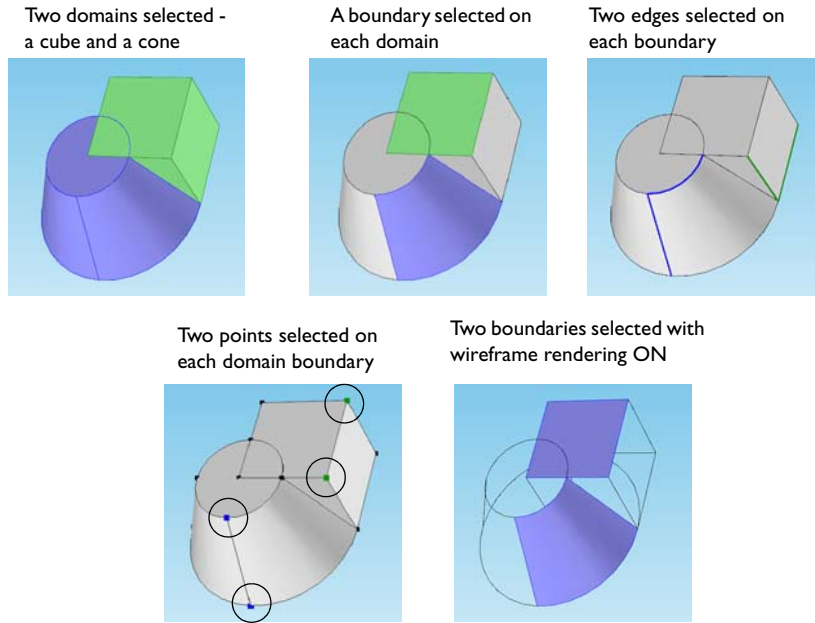
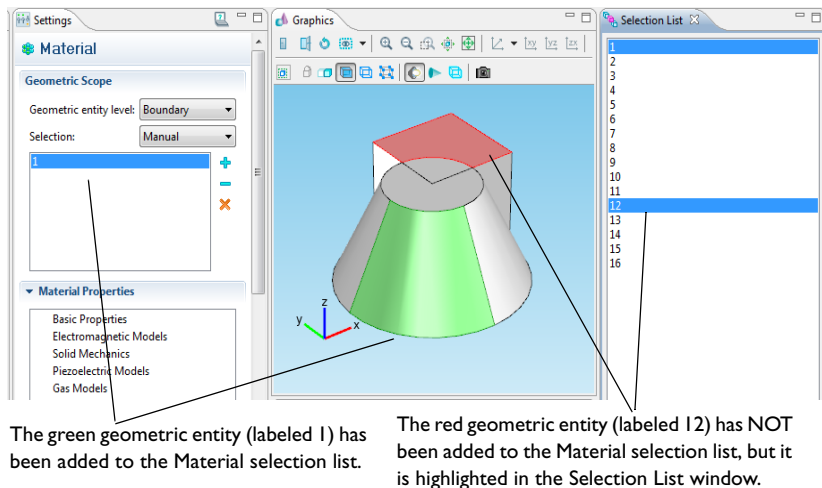

Figure 4-1: A 3D geometry is comprised of domains, boundaries, edges, and points.
Figure 4-3: Selecting geometric levels - highlighted to indicate status.
COMSOL Multiphysics geometric entities are comprised of *domains*, *boundaries*, *edges* (3D only), and *points*. For example, a 3D cube consists of one domain with six boundaries. The six boundaries have 12 edges and the edges connect at eight points (see Figure 4-1). This enables you to visualize a cube by displaying one or more of these four types. For instance, you can generate a wireframe plot by rendering only the cube edges.
COMSOL Multiphysics highlights geometric entities at different stages of selection. Selected lines also have a thicker line width and selected points are larger. In Figure 4-1, each geometric entity is highlighted in red, blue, green, or with no highlight to indicate its status. It cycles between red (left-click to select the geometric entity), blue (right-click to add it to the selection), green (left-click to show that it is added), and no highlight (right-click to cancel the selection).
**Red** The geometric entity is highlighted but not added to the model selection list. Left-click once with the mouse. If you right-click it locks all red geometric entities. See Figure 4-3 for an example. Notice how the COMSOL Desktop is rearranged to better view all windows while making a selection.
**Blue** The geometric entity has been added to the model selection list. The selection is highlighted in blue after you right-click once. See Figure 4-1 for an example.
**Green** After the geometric entity is added to the selection list, when you click anywhere (directly in the **Graphics** window, from the **Settings** page, or in the **Selection** window) it is highlighted green, which corresponds to the name of the geometric entity in the **Selection** section in the **Settings** window. See Figure 4-1 and Figure 4-3 for examples.